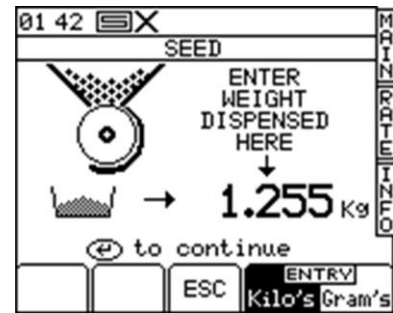

Figure 19. Calibration correction screen
4. Weigh the contents of the container, and then enter the *ACTUAL* weight dispensed (Fig.19) and press ENTER to confirm.